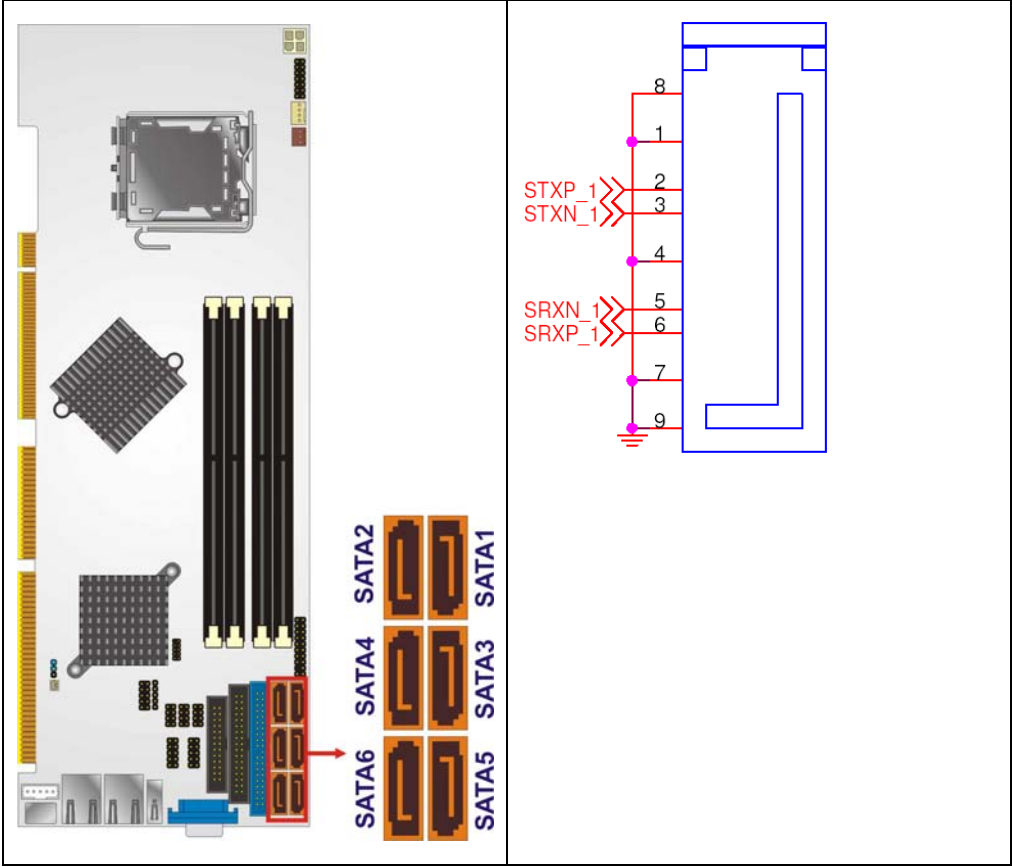

Figure 4-12: SATA Drive Connector Locations
**CN Location:** See Figure 4-12